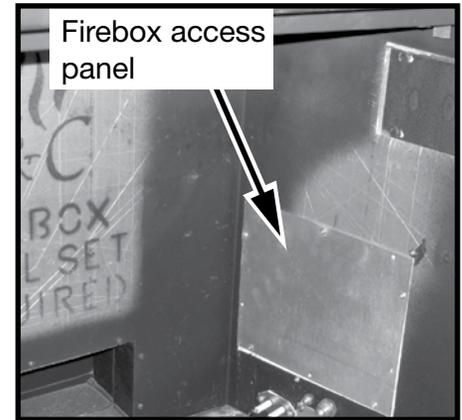

Figure 23: Access to firebox.
3. Remove access panel from right hand side of the firebox (Figure 23).